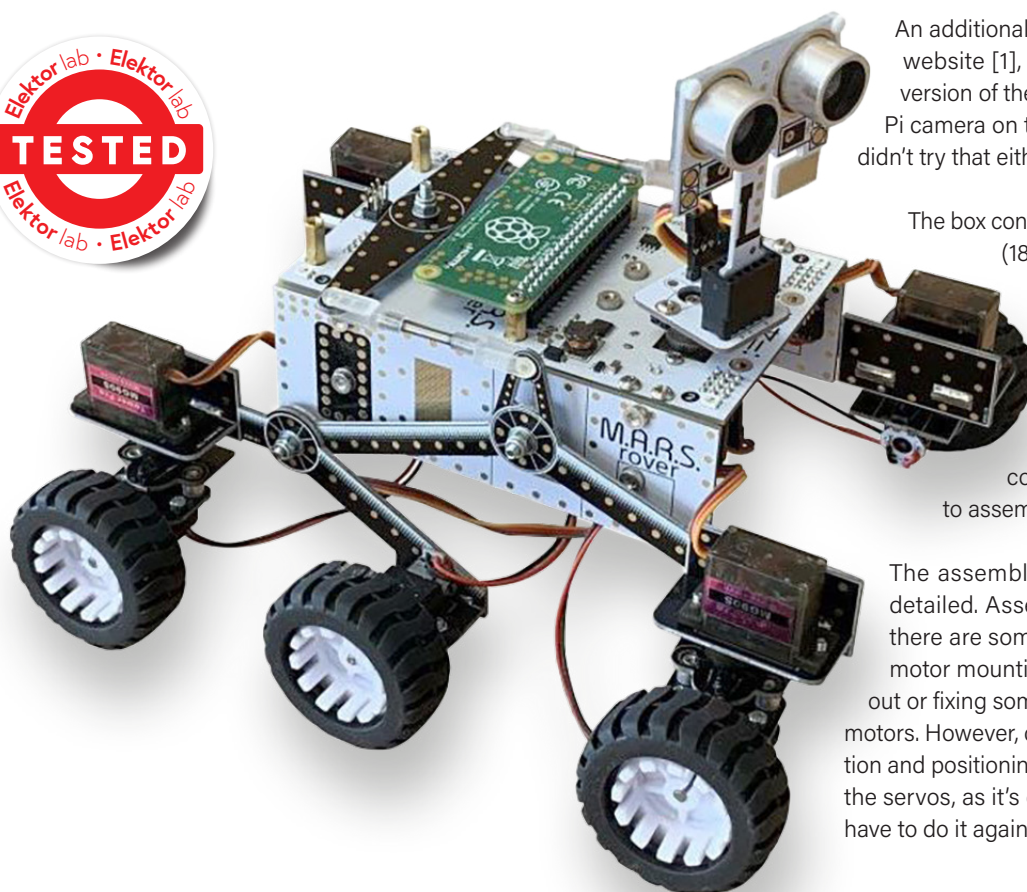

Figure 1: Bring your own screwdrivers.
- Get some real screwdrivers (**Figure 1**).